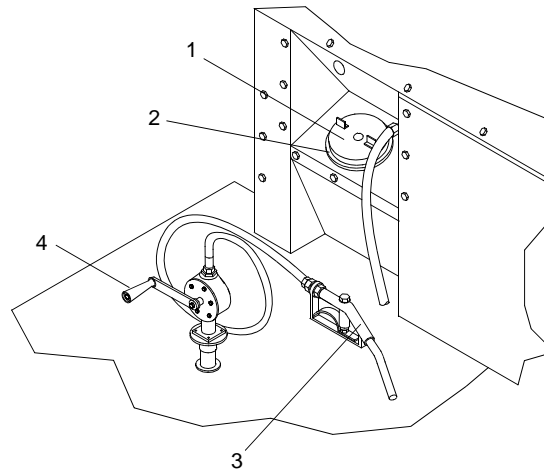

Figure 3. Generator Fuel Hand Pump
2. Remove cap (figure 3, item 1) from generator fuel inlet (figure 3, item 2).
3. Insert manual fuel pump nozzle (figure 3, item 3) in generator fuel inlet (figure 3, item 2)
4. While depressing handle on manual fuel pump nozzle (figure 3, item 3), turn rotary hand pump handle (figure 3, item 4) clockwise to transfer fuel.
6. Release handle and remove manual fuel pump nozzle (figure 3, item 3).
7. Install and tighten cap (figure 3, item 1) on generator fuel inlet (figure 3, item 2)